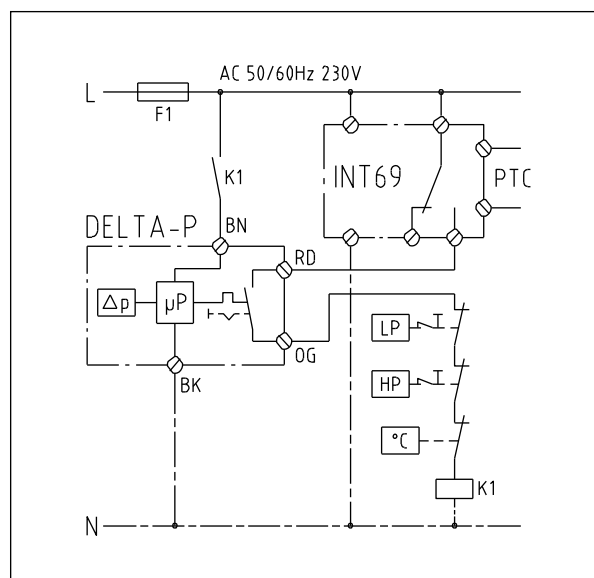

Fig. 33 Connecting electrical scheme Delta-P
- ✓ connect to the control system (see Fig. 33).